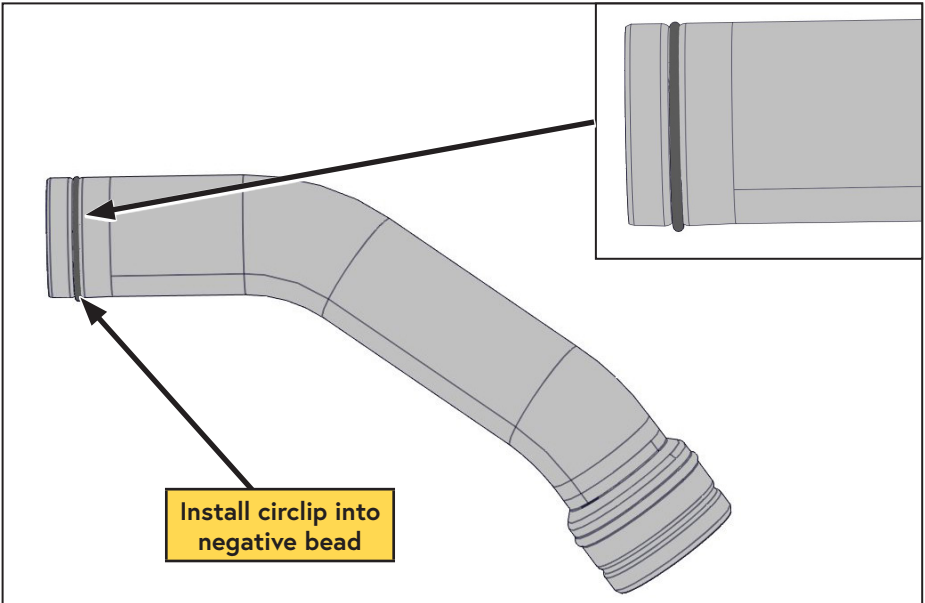

Figure 100 — Install circlip
- ☐ Install the circlip into the negative bead of the OEM steel duct (Figure 100).